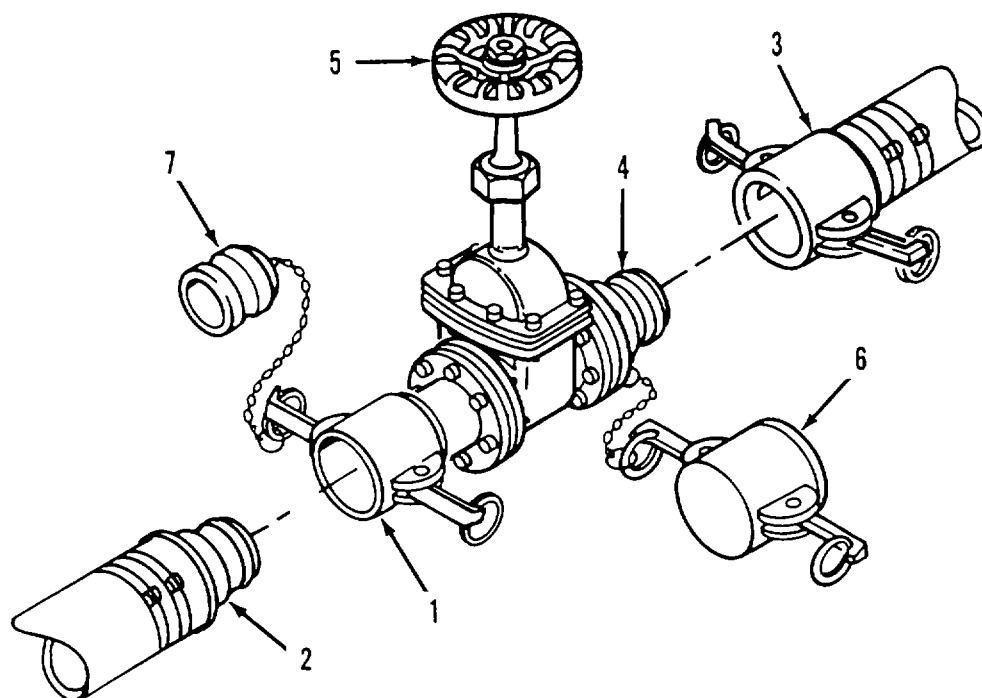

Figure 3-2. Quick Disconnect Component Replacement.
a. Removal. Refer to figure 3-2.
- (1) Disconnect female coupling (1) from male coupling (2).
- (2) Disconnect female coupling (3) from male coupling (4).
- (3) Remove defective 4-inch gate valve (5) from water system.
- (4) Install cap (6) on male coupling (4).
- (5) Install plug (7) in female coupling (1).
b. Installation. Refer to figure 3-2.
- (1) Remove plug (7) from female coupling (1).
- (2) Remove cap (6) from male coupling (4).
- (3) Position replacement 4-inch gate valve (5) in water system.
- (4) Connect female coupling (1) to male coupling (2).
- (5) Connect female coupling (3) to male coupling (4).
- (6) Startup water system (para 2-13c) and check for leaks at replaced component.